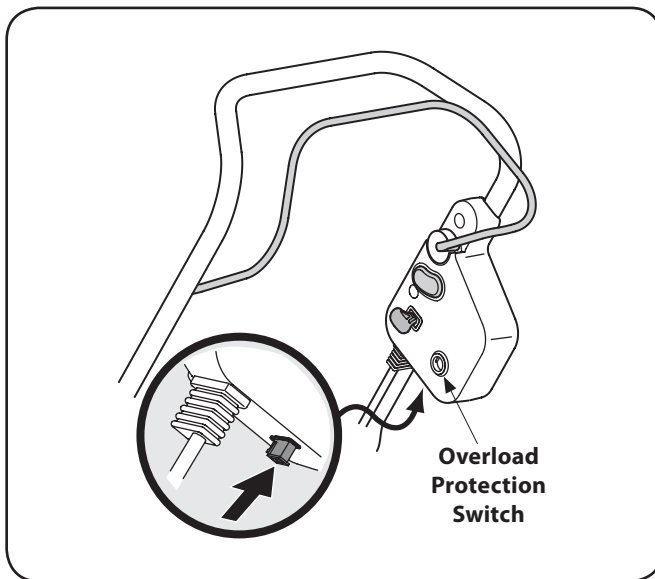

Figure 3-8
Plug the battery charger into the mower first, and then into any standard 110/120 volt household electrical outlet. See Fig. 3-8 for battery charging location on mower.
2. Press the overload protection switch inward to reset. See Fig. 3-8 in Assembly & Set-Up section.